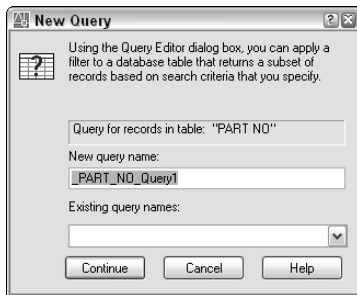

**Figure 20-18:** The New Query dialog box.
3. In the New Query dialog box, shown in Figure 20-18, type a name for the new query or accept the name that AutoCAD supplies. To base a query on an existing query, choose an existing query from the drop-down list. Click Continue.